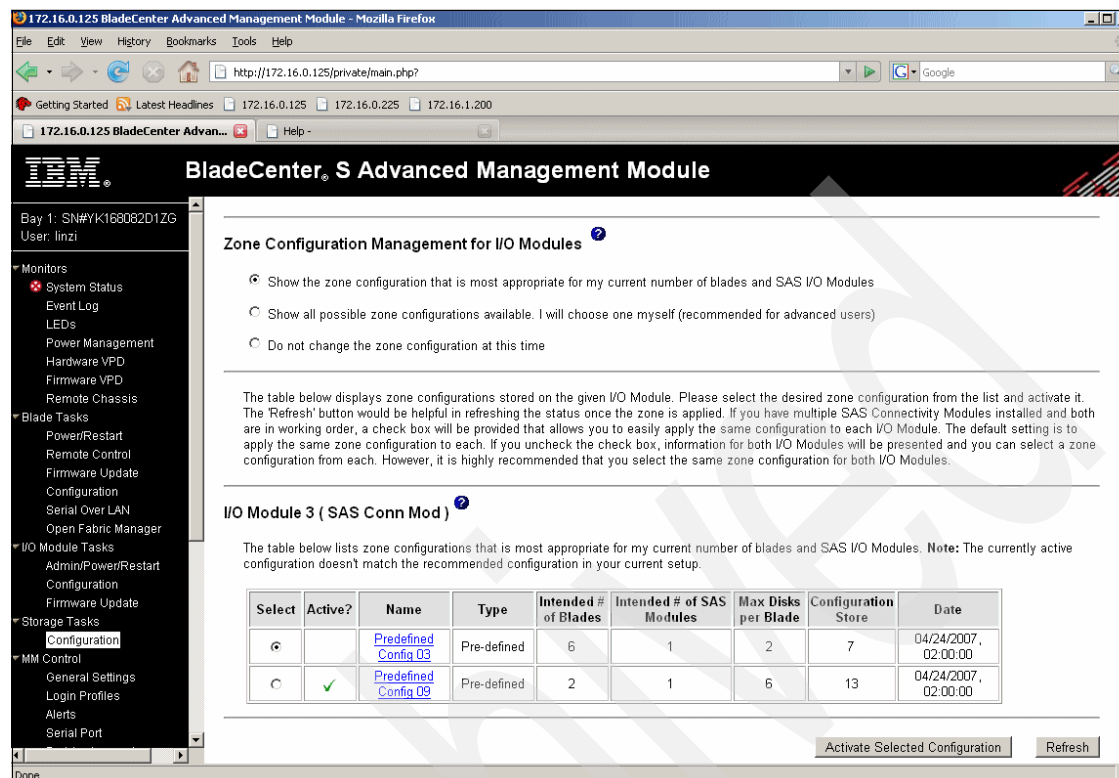

Figure 7-8 AMM SAS configuration zone
- To verify the configuration in the SAS module configuration menus, logon to the IBM BladeCenter Advanced Management Module. Then, under Storage Tasks, select **Configuration** as shown in Figure 7-8 on page 251.